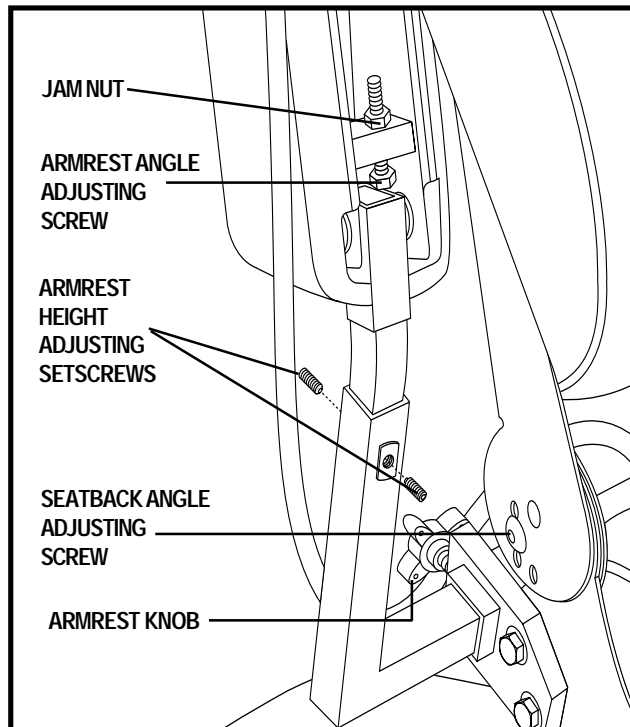

Figure 13. Seatback and Armrest Adjustments
1. Remove the adjusting screws from each seat hinge. See figure 13.
1. Locate the two armrest knobs on each side of the armrest receiver bracket. See figure 13.
1. Loosen the setscrews located on the on the armrest receiver. See figure 13.
1. Lift the armrest straight up so that it is perpendicular to the floor. See figure 13.